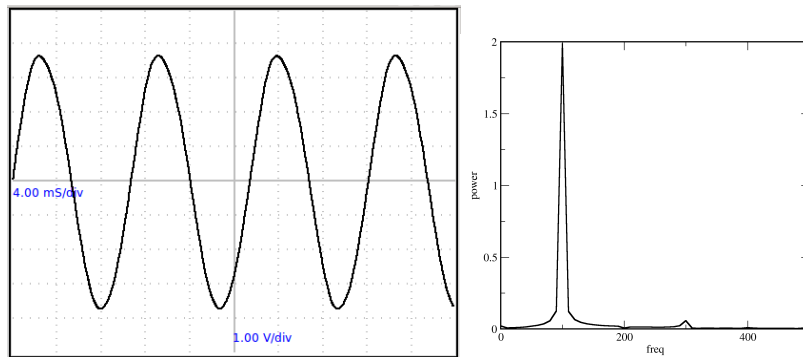

Figure 2.20: (a)Sine wave. (b) Frequency spectrum by Fourier transform.
- The sinewave and it's Fourier transform are shown in figure2.20.